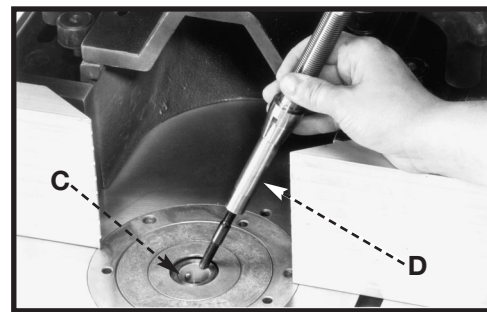

Fig. 5
2. Insert the tie rod and spindle into the spindle cartridge. Line up the pin (C) Fig. 5 with the notch (D) in the spindle.